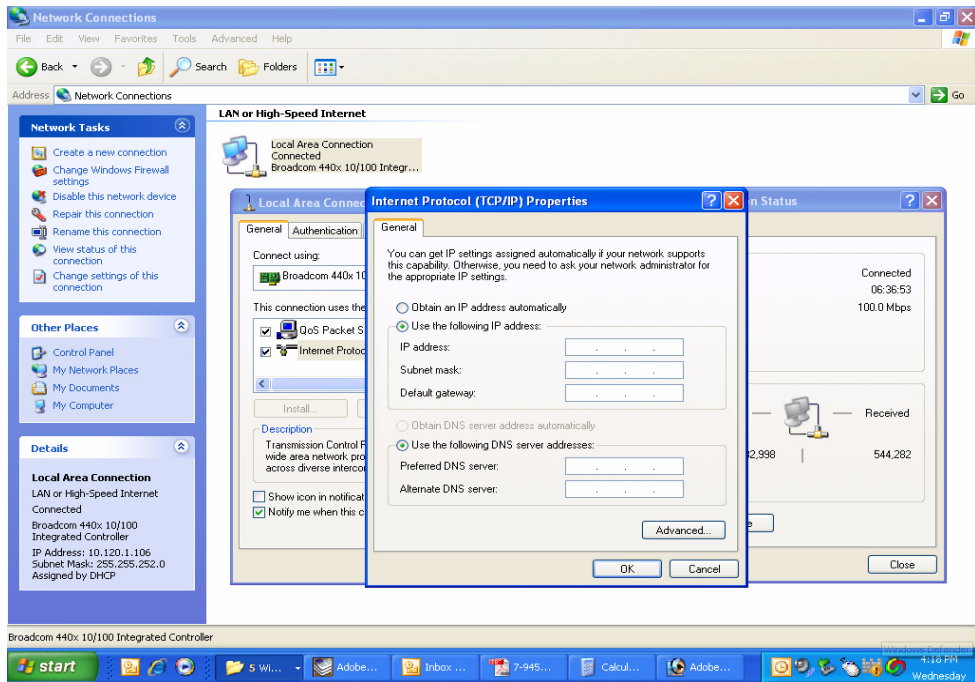

Figure B6: Select “Use the Following IP Address”.
- 7) Select the “Use the following IP address” bubble. Make sure the circle is filled-in. Refer to **Figure B6**.